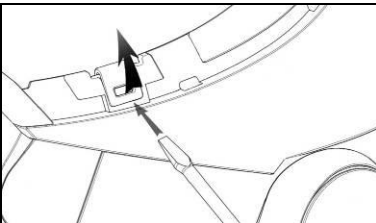

Fig. 30
- Unhook the right and left clips from the shell, levering upward using a flat head screw (or a similar tool), as shown in figure 30.